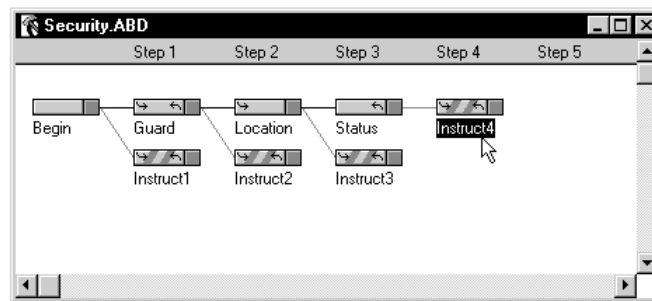

Figure 4-74 “Instruct4” Handler Selected
47. Select the “Instruct4” Handler (Figure 4-74). The “Instruct4” Handler will be stepped to if the user does not scan a valid location or guard bar code after scanning a status bar code. We will use **Scan bar code on door or badge.** as our instruction message.